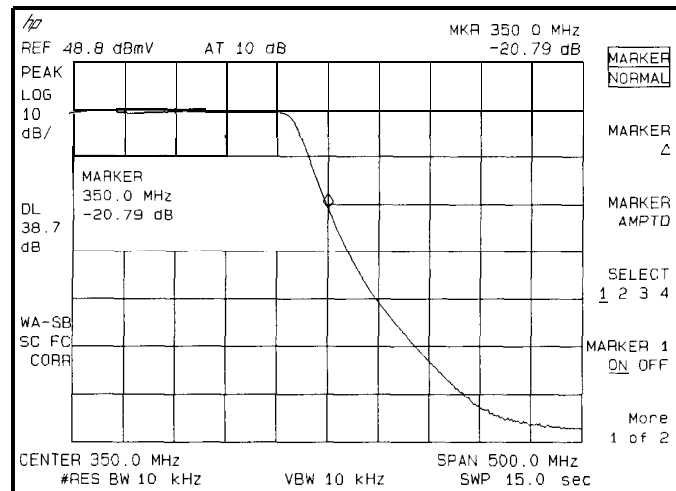

Figure 5-10. Measure the Rejection Range with Delta Markers
- To measure the rejection of the filter at a given frequency, press **(MKR)**, and enter the frequency. For example, enter 350 MHz. The marker readout displays the rejection of the filter at 350 MHz (see Figure 5-10).